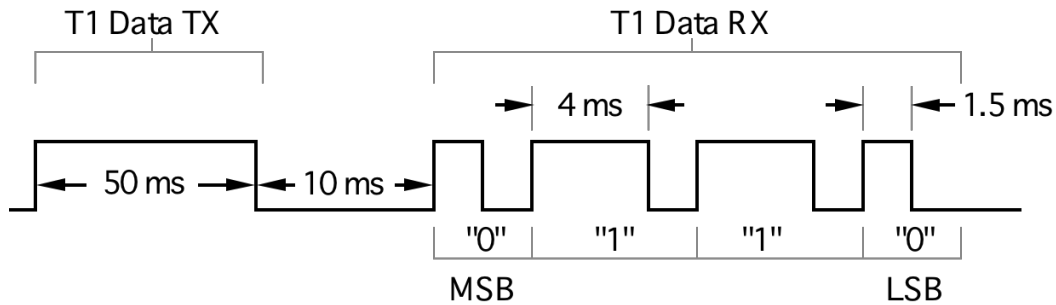

Figure 3
- Relays can also be controlled by sending binary data via J3. Use the TUNE and DATA timing shown in **Figure 3**. Send 0000 to reset all relays, and 0001-1111 to set K1-K15 respectively. Once any relay data is sent via J3, you’ll need to use only this method, not manual selection.
**Figure 3** shows the protocol. First, the T1 sends a band request pulse on the DATA line, which is initially an *input* at the control device. When the control device sees the end of the request pulse, it sets up DATA as an *output*, and after a 10-ms delay, sends a band ID to the T1 (band 6 in this example, or "0110" in binary). The ID is sent most-significant-bit (MSB) first, each bit having a high and low period. The high period is 4 ms for a "1" and 1.5 ms for a "0". The low period is always 1.5 ms, except for that of the LSB (least-significant-bit), which can be extended indefinitely. Timing values should be held to +/- 15%.